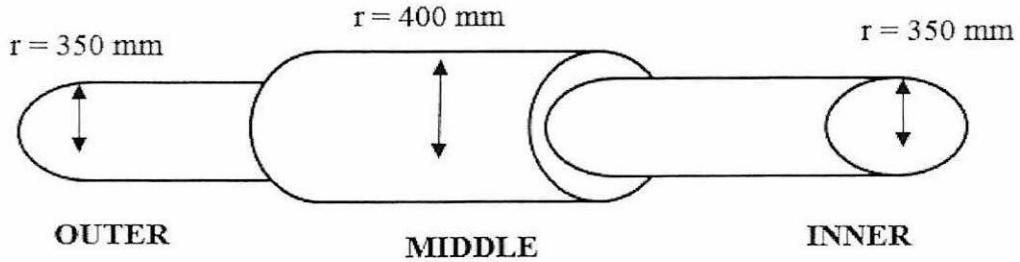

Figure Q4 (e): Galvanized iron piping section
- (b) Identifies the **THREE (3)** most common types of flow characteristic of valves in piping engineering applications and draw the graph particular percentage (4 marks)
- (e) The internal diameter of the galvanized iron pipe is 350 mm while the thickness is 48.5 mm under pressure of 5 N/mm² shown in **Figure Q4(e)**. This pipe is used to carry out waste water from the industrial site to water treatment plantation. Calculate the tangential stress at the inner, middle (radius = 225 mm) and outer (radius = 175 mm). (3 marks)